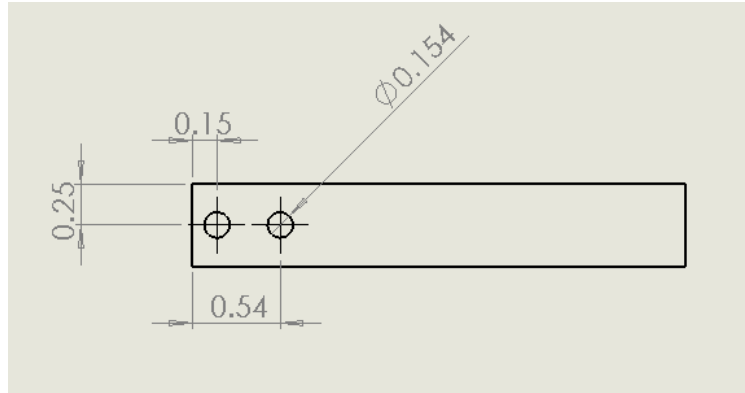

Figure 4: Testing the differential pivot holes
Now take quantity (2) of the 0.5 x 3 inch hollow rods **S18** and perform the same holes drilled following Figure 4 the holes drilled on just one end of each of them, see drawing below. Test each of the sets individually to make sure the beam will attach to each of them. This makes the **S18B** parts